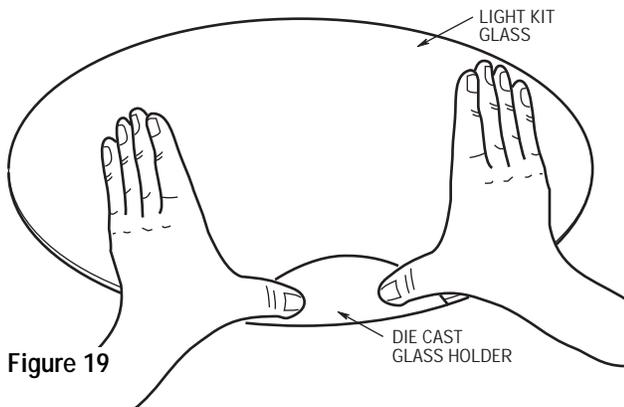

Figure 19
- 8. Firmly press the die cast glass holders into position on the light kit glass (Figure 19).